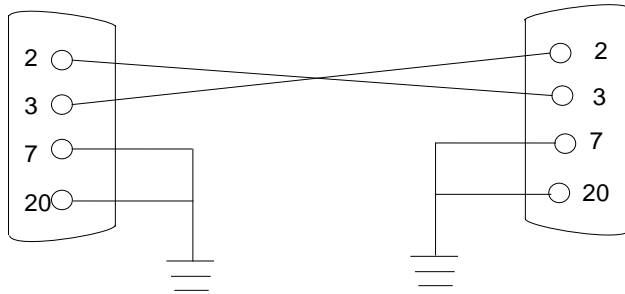

FIGURE 3-1 Setting Up a TIP Connection
1. **Connect the serial port of the tested system to the serial port of a second Sun workstation using a serial null modem cable (connect cable pins 2-3, 3-2, 7-20, and 20-7), as shown in FIGURE 3-1.**